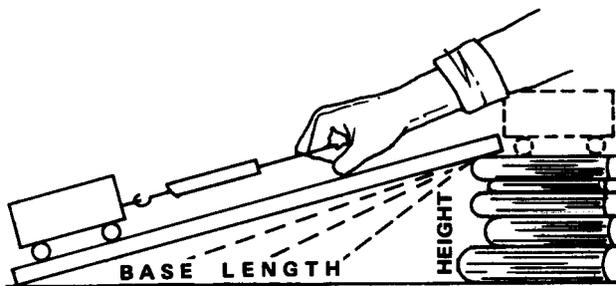

Figure 6-26
1. Repeat Procedure 2 in Problem 6-8 using six or seven books. Record the total height of the books in Table 6-4. Also record the base length of the inclined plane (Fig. 6-26).